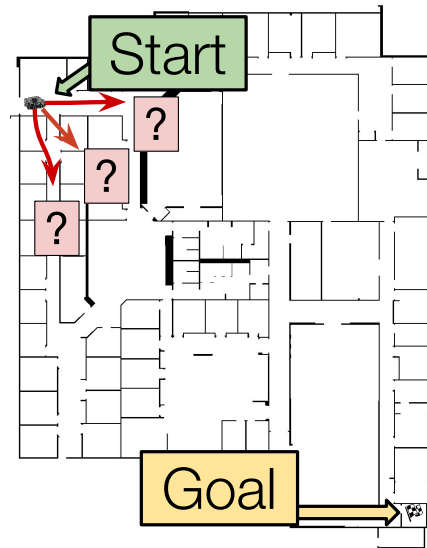

Figure 1: The willow garage map with the robot start and goal positions.
The `nodes/l2_planning.py` script should be run using the command `./l2_planning.py` from within the `nodes` folder. This calls the function `main()` in `l2_planning.py`, which produces a numpy¹ (.npy) file of the path your graph follows to the goal point. This numpy file will be used to drive your robot in the `l2_follow_path.py` script. The robot's environment is represented in 2D by the image `willowgarageworld_05res.png`. The goal of this lab is to determine the path from the top left to the bottom right room (see Fig. 1)². The file `pygame_utils.py` has been included to help visualize your code running.
1. (/3) A picture with a successful output from RRT, given the goal in Fig. 1. The code already provided in `l2_planning.py` is enough for visualization, and you must take a screenshot of your output.
2. (/3) A picture with a successful output from RRT*, given the goal in Fig. 1. Since RRT* is an anytime algorithm, we don't expect you to get the optimal trajectory, but it should be clear that it is reasonably close to optimal, and certainly better than your output from RRT.